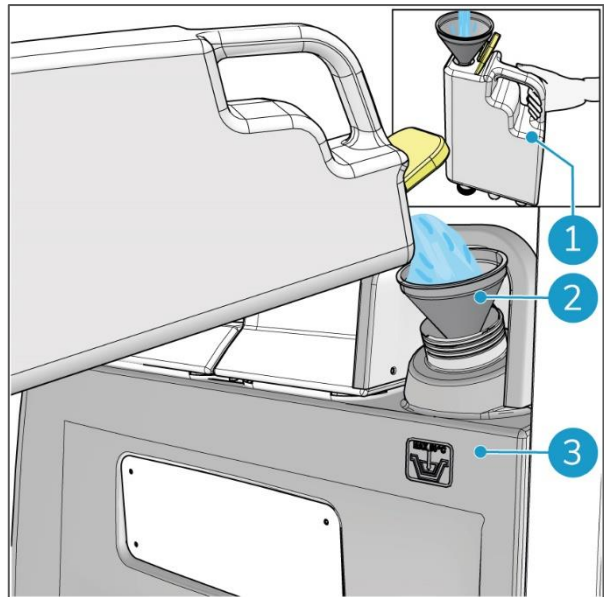

Figure 60
3. Hold the detergent tank by the handle and pour in approx. 2 liters of water, use a funnel. Shake it. Pour the contents into the recovery tank (Figure 60, pos 1).